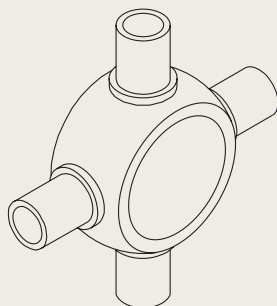
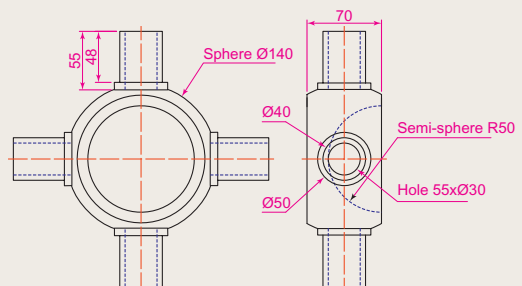

Fig. 13.13 Exercise 2
Fig. 13.14 Exercise 2 – working drawing
2. Using the tools **Sphere**, **Box**, **Union** and **Subtract** and working to the dimensions given in Fig. 13.14, construct the 3D solid model as shown in the isometric drawing Fig. 13.13.